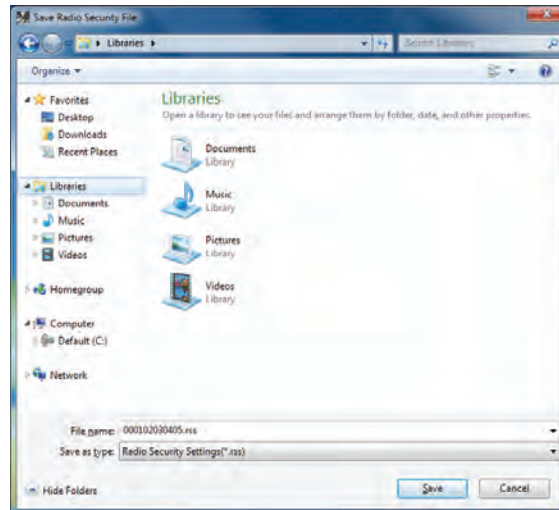

Figure 25. The Save Radio Security File dialog box.
STEP 22. Enter a file name for the security file. See Figure 25 on page 18. Then click the **Save** button. It's good practice to use the MAC address of the target radio as the filename or as part of the filename for the security file.